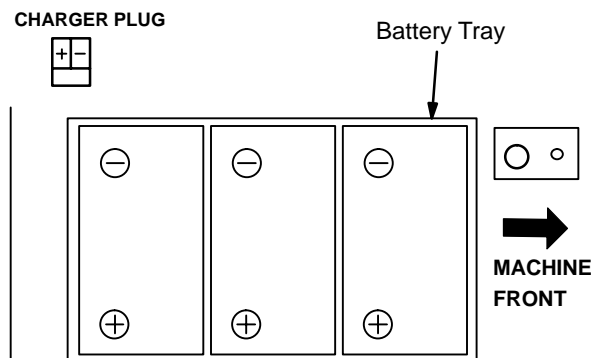

FIG. 3
4. Carefully install batteries into battery tray and arrange battery posts as shown. After batteries are in place remove battery handles to allow clearance for battery hood (Figure 3).